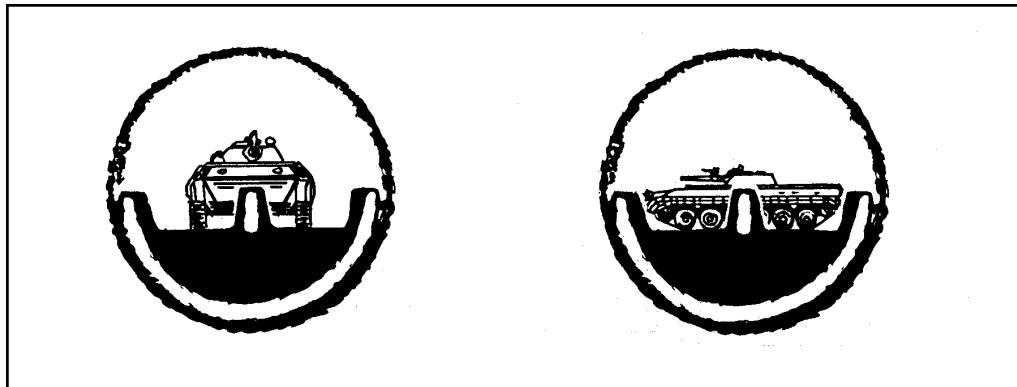
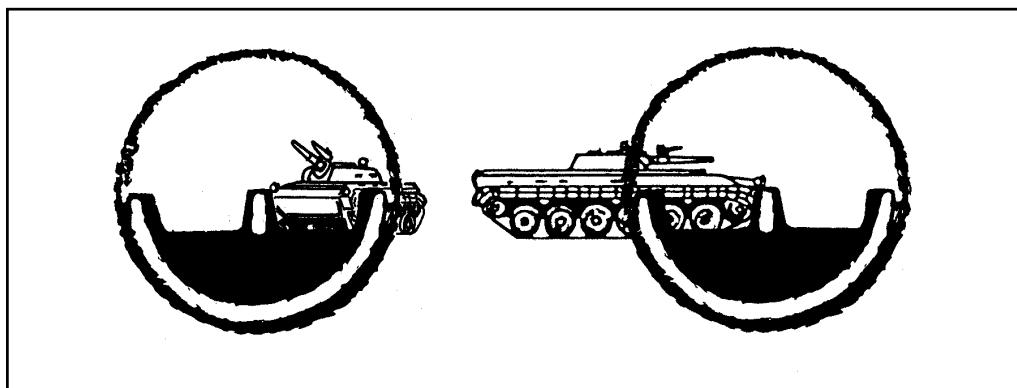

Figure 4-8. Sight picture, stationary targets, M136 AT4.
Figure 4-9. Sight picture, slow-moving targets, M136 AT4.
(2) **M136 AT4.** *Stationary targets* include those moving directly toward or away from the firer. Adjust the rear sight for the correct range and place the center sight post in the center of the target (Figure 4-8). *Slow-moving vehicles* are those with an estimated speed of 10 mph or less, or those moving in an oblique direction. Place the center sight post on the front or leading edge of the vehicle (Figure 4-9). *Fast-moving vehicles* are those estimated to be moving faster than 10 mph. Place either the left or right lead post on the